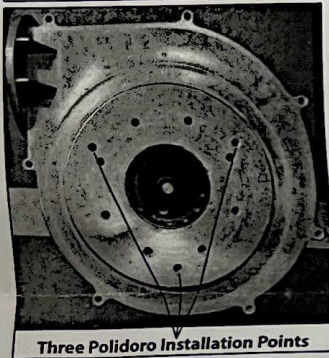
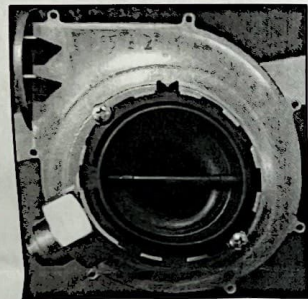

Figure 20 - Polidoro Mixer Installation Points
Figure 21 - Blower with Installed Polidoro Mixer
Step #1 - Use a 4mm allen wrench and the three (3) included M5 screws to install the polidoro mixer onto the blower included in this kit. See Figure 20. Ensure completed blower and mixer assembly appear as shown in Figure 21.